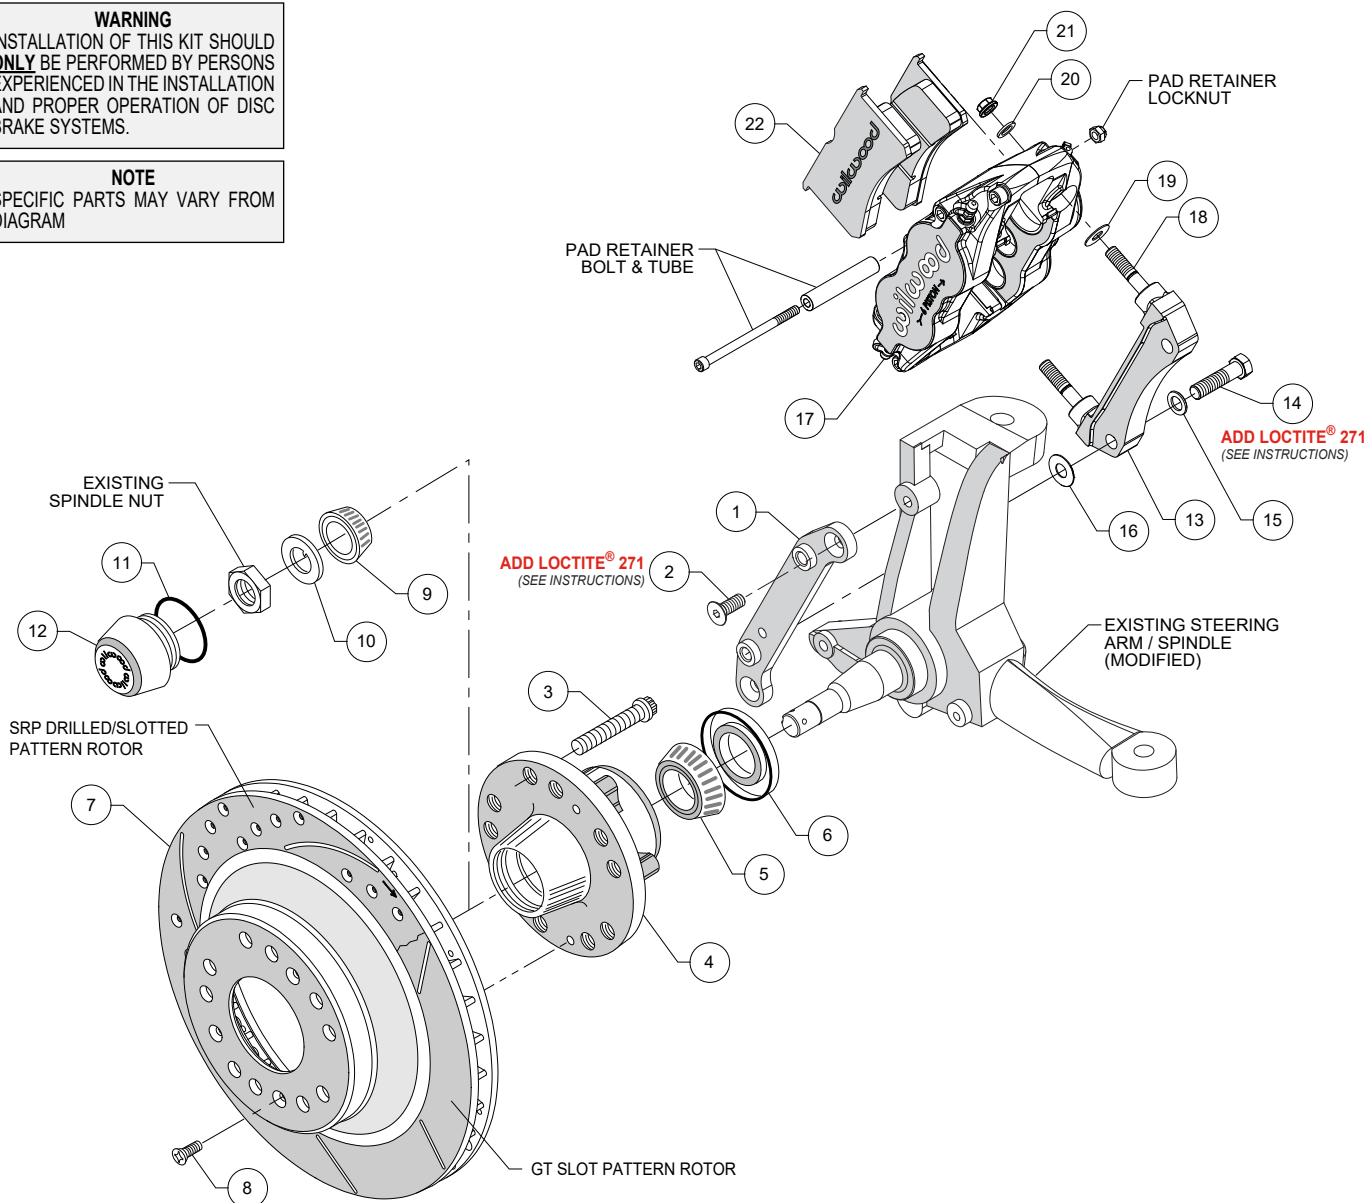

Figure 2. Typical Installation Configuration
NOTE: Numbers in parenthesis refer to the parts list and Figure 2 on the preceding pages.
•Orient the flat mounting bracket (1) as shown in Figure 2 and install using bolts (2). **NOTE:** Be sure the heads of the flat caliper bracket (1) insert nuts are facing outward toward the wheel. Temporarily tighten the mounting bolts. **NOTE:** The bracket must fit squarely against the mount bosses on the upright. Inspect for interference from casting irregularities, machining ridges, burrs,
•**NOTE:** Please reference the caution statement at the beginning of the assembly instructions. The radial mount caliper bracket (13) should initially be installed with clean, dry threads on the mounting bolts (14). Orient the bracket, as shown in Figure 2 and install using bolts (14) and washers (15). Initially place one .030" thick shim (16) on each bolt between the radial mount caliper bracket (13) and caliper mounting flat bracket (1), Figure 2. Temporarily tighten the mounting bolts. Later, after the caliper alignment has been checked, the mount bolts will be secured using red *Loctite*® 271.
- Pack the large inner bearing cone (5) with high temperature disc brake bearing grease (available from your local auto parts store) and install into the backside of the hub (4), Photo 2.
- Install the grease seal (6) by pressing into the backside of the hub (4), flush with the end of the hub, Photo 2.
- Pack the small outer bearing cone (9) with high temperature disc brake bearing grease and install into hub (4). Slide the hub assembly onto the spindle. Secure using spindle washer (10) and OEM spindle nut, Photo 3. Adjust bearings per OEM specifications. Install saved OEM nut lock (if any) and a new cotter pin (not included).
- Screw dust cap (12) into hub (4), Photo 4. Friction created by the o-ring (11) on the dust cap keeps it from unscrewing. **NOTE:** The O.D. of the existing OEM spindle washer may be larger than the I.D. of the dust cap not allowing it to seat against the hub face. Therefore, use the spindle washer (10) supplied with the kit instead of the OEM washer.
- Slide the hat/rotor (7) onto the hub (4) taking care to align the small countersunk holes in the hat with the small threaded holes in the hub. **NOTE:** The hat must fit flush against the hub face or excessive rotor run out may result. Install three flat head screws (8) through the small holes in the hat (7), Photo 4, and torque to 85 in-lb.
NOTE: This kit contains distinct right and left hand calipers that must be mounted in a specific direction, as described below. Initially place one .035" thick shim (19) on each stud (18) between the caliper and the bracket, as shown in Figure 2 and Photo 5. Mount the caliper (17) onto the bracket (13) using lock nuts (21) and washers (20), Figure 2. Ensure that the caliper is mounted so the largest pistons are at the rotor exit end of the caliper, in relation to the direction of rotor rotation. Temporarily tighten the lock nuts and view the rotor through the top opening of the caliper. The rotor should be centered in the caliper, Photo 6. If not, adjust by adding or subtracting shims (16) between the two brackets. Always use the same amount of shims on each of the two mounting bolts. Once the caliper alignment is correct, remove the bracket mounting bolts one at a time, apply red *Loctite*® 271 to the threads, and torque to 60 ft-lb.
- Remove the pad retainer bolt, locknut, and tube from the caliper. Insert the brake pads (22) into the caliper, with the friction material facing the rotor, as shown in Photo 7. Check that the top of the brake pad is flush with the outside diameter of the rotor, Photo 8. If not, adjust by adding or subtracting shims (19) between the